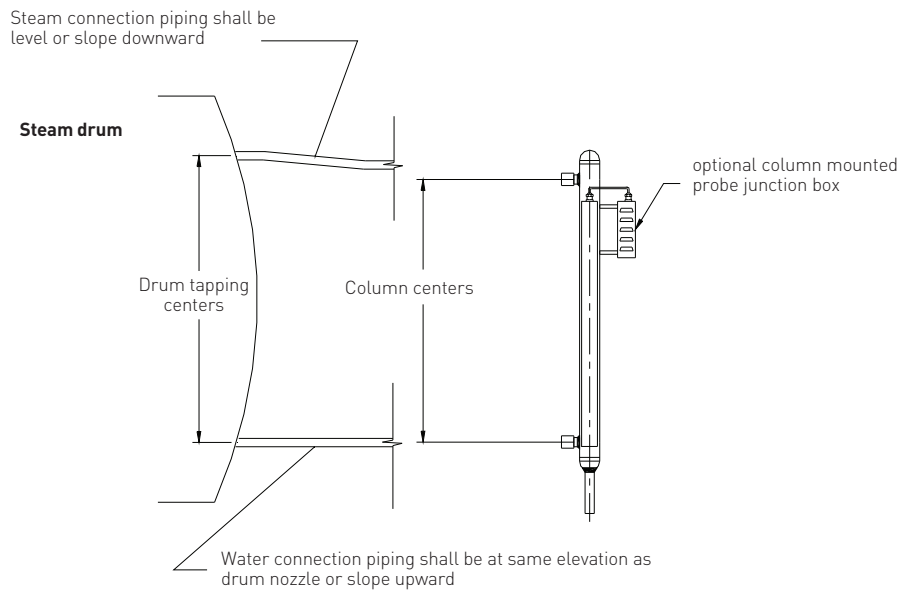

FIGURE 1
2.2 Water column (see figure 1)
The water column is fixed to the steam drum either by being welded directly to the isolating valves or welded to flanges that mate with existing flanges on the steam drum tapping points. A steam inlet line must be installed to provide a free flow of steam to the water column. The steam line must be level or slope downward as shown in figure 1. When globe valves are used as the isolation valves, they must be installed with the stem horizontal.